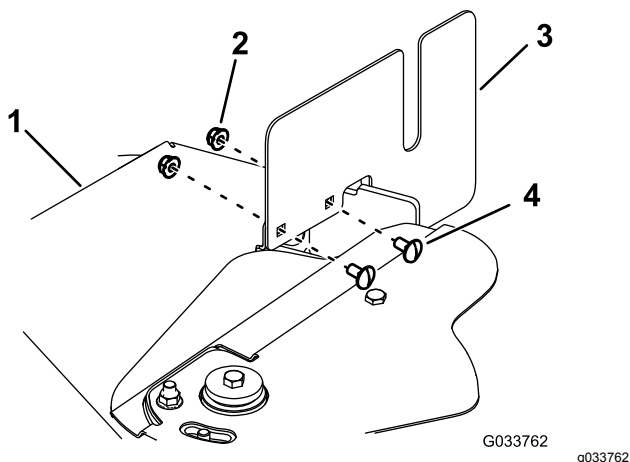

Figure 63
3. Remove the 4 carriage bolts and 4 nuts connecting the 2 side covers to the belt covers (Figure 63).
10. Install the 2 side covers to the belt covers using the 4 carriage bolts and 4 nuts (Figure 63).